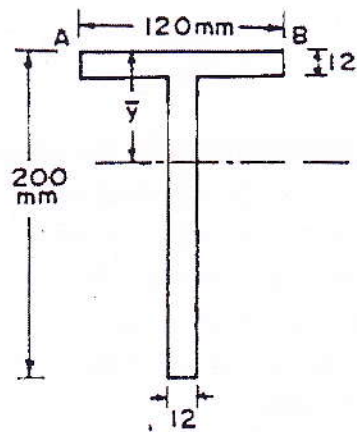

Fig.4
- b) The cross section of a beam is T section $120\text{mm} \times 200\text{mm} \times 12\text{mm}$ Fig. 4 with 120mm side horizontal. Sketch the shear stress distribution and hence find the maximum shear stress if it has to resist a shear force of 200 kN. [9]